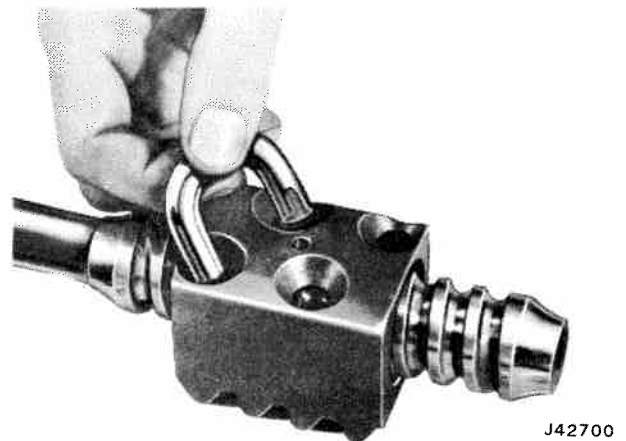

Fig. 11-40 Installing Ball Guides
(3) Install ball guides in ball nut (fig. 11-40). Hold them in place with fingers and install 5 more balls in each circuit through window in top of ball guide.